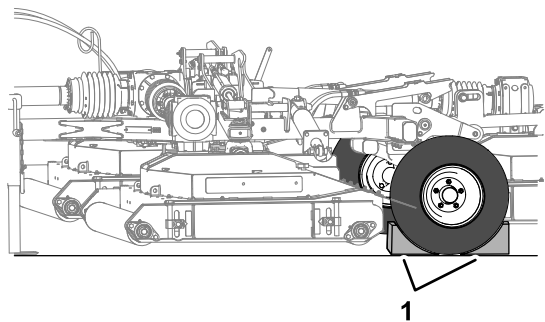

Figure 24
7. Chock both tires of the mower (Figure 24).